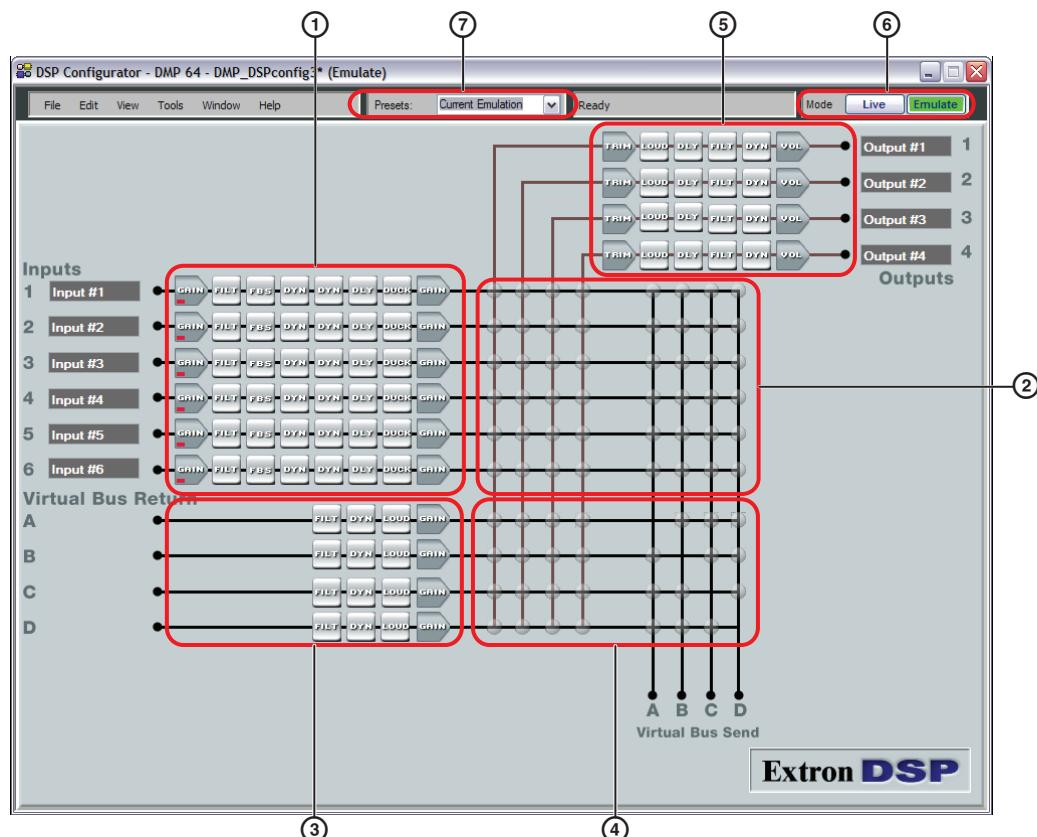

Figure 56. DSP Configurator Program Window
When the program starts, the cursor focus defaults to the mic/line input gain block (figure 56, ①). The input 1 gain block is highlighted green [④]. The <Tab> key toggles to the various sections outlined in red in figure 56.
NOTE: The callout numbers for figure 56 are not the same as figure 17.
- ② Main mix-points
- ③ Virtual return signal path
- ④ Virtual return mix-points
- ⑤ Output signal chain
- ⑥ Mode (toggles to **Live**, then **Emulate**)
- ⑦ Presets (<Down> arrow can select presets)
- **Arrow (↑, ↓, ←, and →) Keys** — Navigate up, down, left, and right within any of the areas outlined in figure 56.